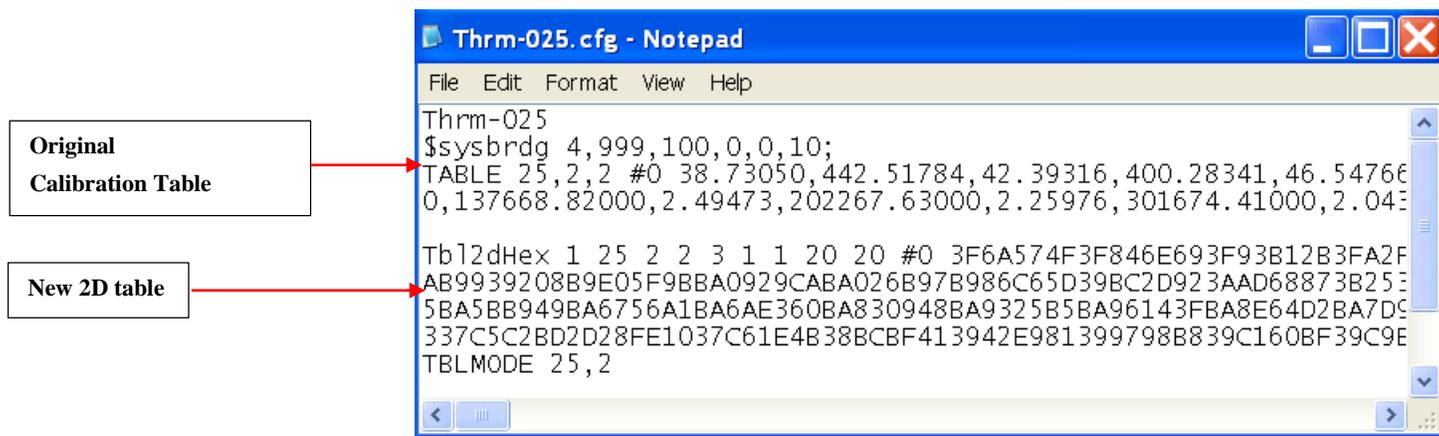

Figure 13: Updated ACMS thermometer Configuration file with new MR Calibrated 2D table
2. Copy the 2D table from the configuration file and paste in the ACMS Therm-XXX.cfg file (`\\QdPpms\ACMS\Calibration`) under the original thermometer calibration table. Ensure to also include the command: TBLMODE 25,2 when copying the table over to the thermometer configuration file. (Figure 13)